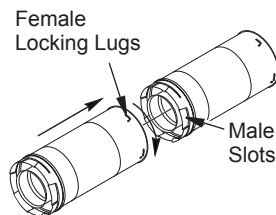

Figure 9 - Vent Pipe Connections
Twist-Lock Procedure: Female ends of pipes have locking lugs (indentations). These lugs will slide straight into matching slots on male ends of adjacent pipes. Push pipe sections together and twist one section clockwise approximately one-quarter turn until sections are fully locked (see Figure 9).
2. Assemble desired lengths of pipe and elbows necessary to reach from fireplace flue up through firestop. Be sure all pipe and elbow connections are fully twist-locked (see Figure 9, page 11).